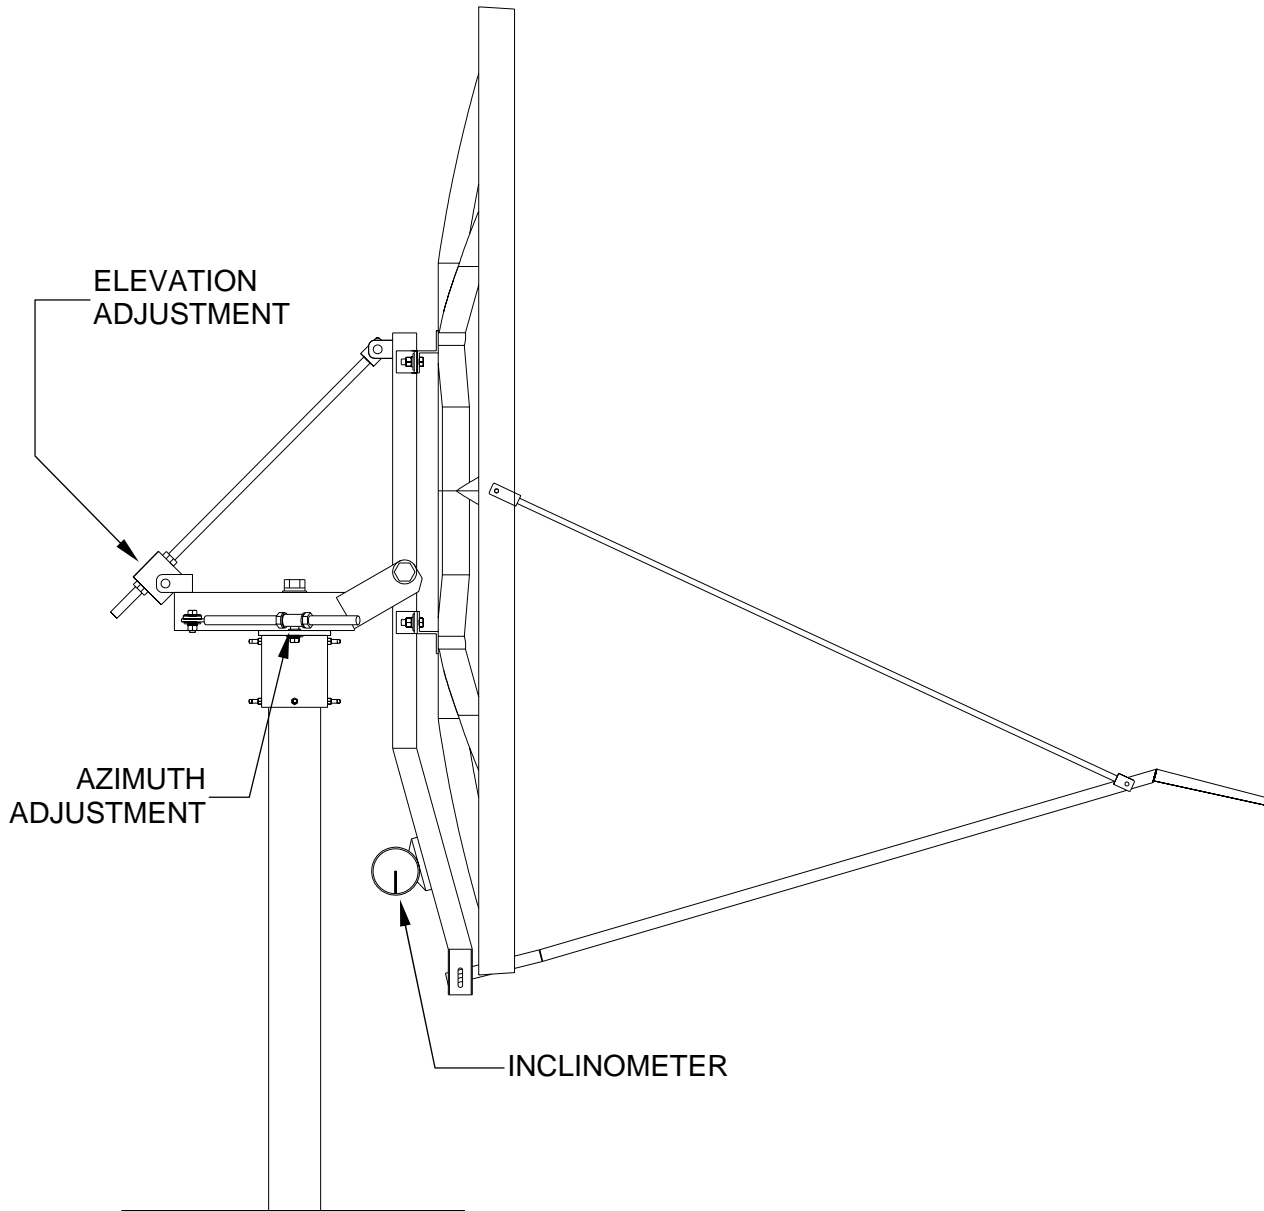

FIGURE 2.
The 1.8meter reflector contains an elevation offset look angle. Therefore, when the reflector aperture is perpendicular to the ground, the antenna is actually looking 17.3° in elevation. Refer to Figure 2.
- Step 1: Place an inclinometer on the reflector support tube as shown in Figure 2. The surface allows for the offset look angle and therefore a direct reading can be taken for elevation.